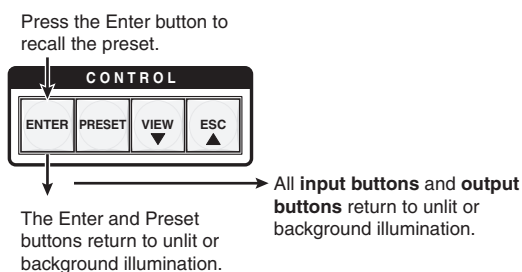

Figure 3-47 — Press the Enter button
4. Press and release the Enter button (figure 3-47). The configuration stored in the selected memory location is now the current configuration and can be viewed in the *View-only* mode (see example 4).